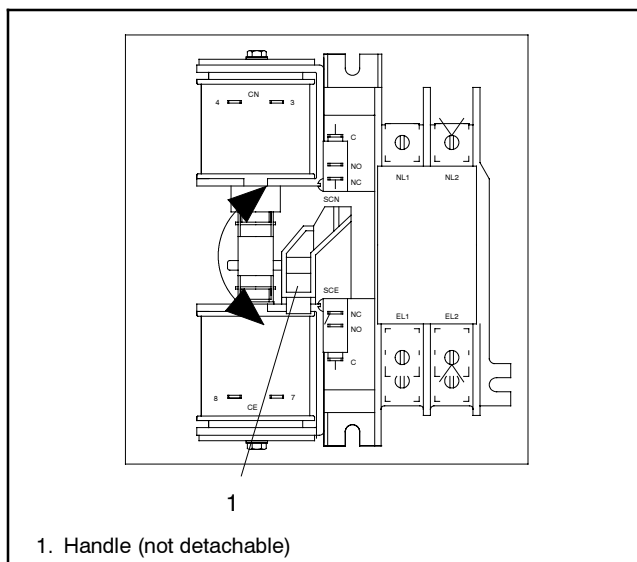
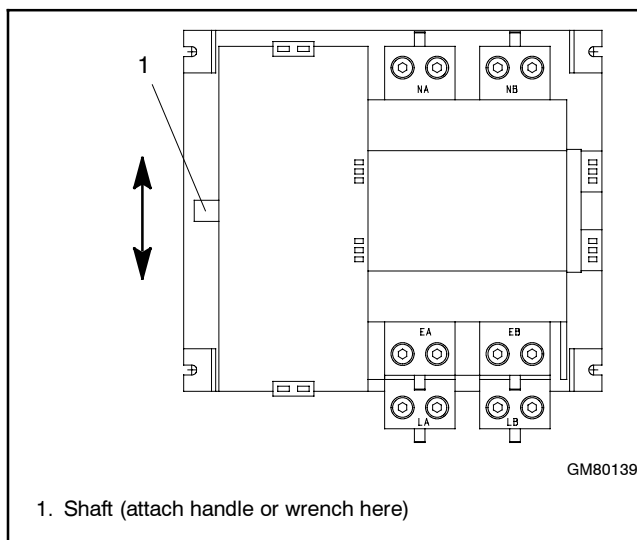

Figure 2-4 Manual Operation, 100 and 200 Amp Single-Phase Switches
Figure 2-5 Manual Operation, 400 Amp Single-Phase and 208-240 Volt Switches
- 100-200 amp switches: These switches have an attached handle as shown in Figure 2-4.
400 amp switches: Slide the detachable handle or a wrench over the shaft. See Figure 2-5.
- Move the handle up to place the transfer switch in the Normal Source position or down to place the contactor in the Emergency Source position. See Figure 2-4 or Figure 2-5.